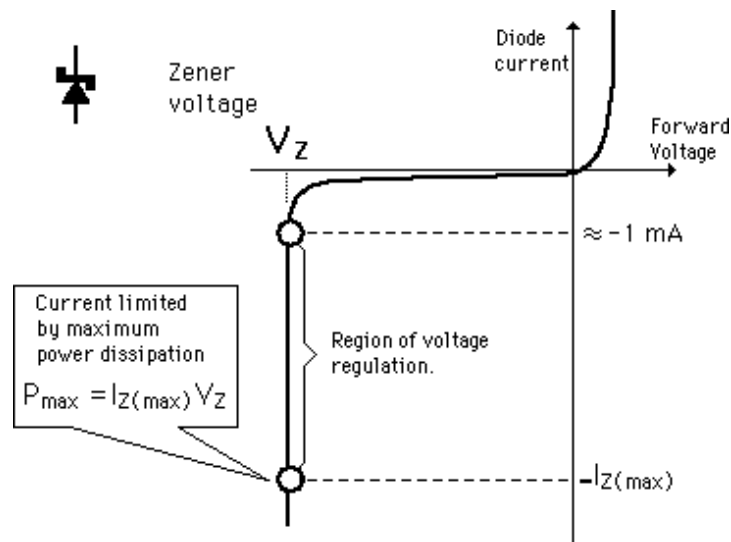

Fig. 4.3 Forward and reverse bias V-I characteristics of a PN junction diode
9. The typical forward and reverse characteristics are shown in Fig. 4.3.